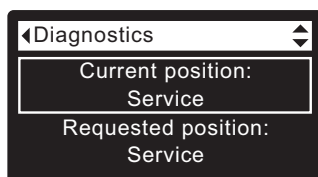

FIG. 92
4. Press the UP (▲) button to scroll through the list until **Current position** is displayed (See Figure 92).